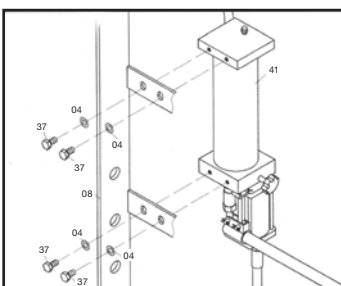

Figure 4
- Move the Pump Assembly (41) to the outside of the leg, use bolt (37) and Washer (04) to reconnect the pump assembly and tighten. (figure 4)